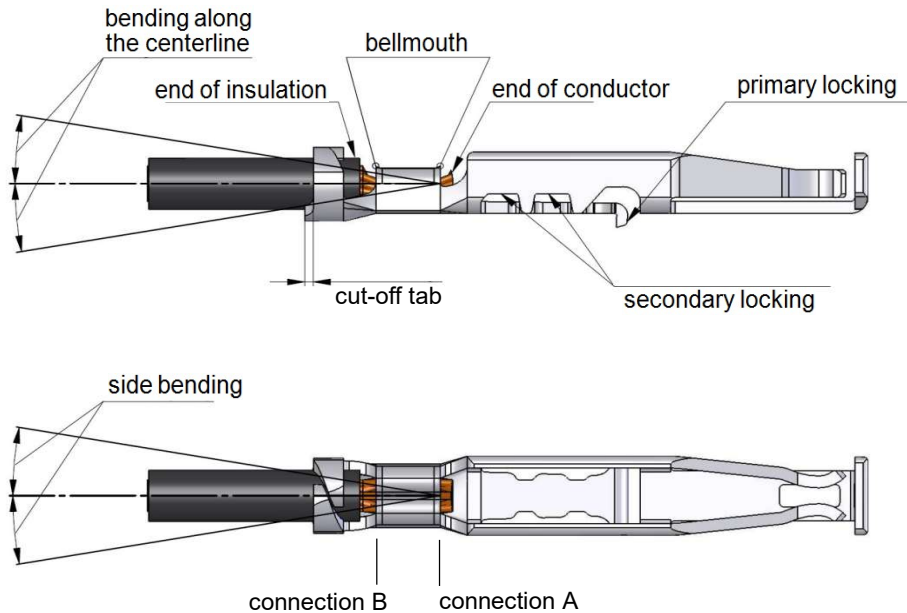
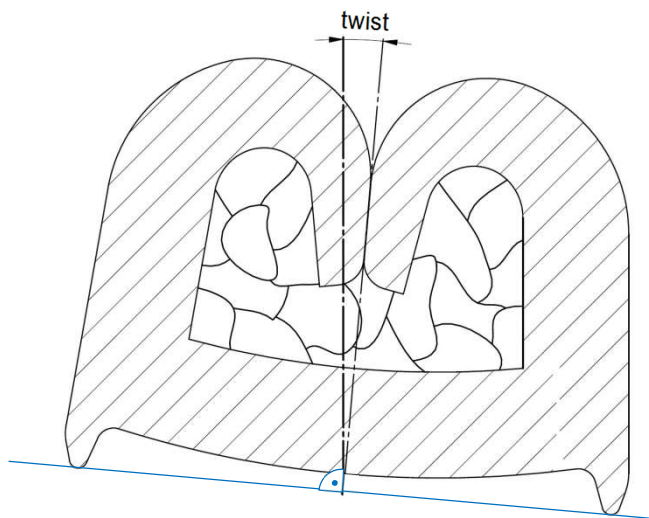

Figure 2
Figure 10
- "Side bending" must not exceed 3° (see Figure 2).
- "Bending along the centerline" must not exceed 5° (see Figure 2).
- "Twist" between crimp and contact range must not exceed 5° (see Figure 10, missing in Figure 2).
- The separating strip must not exceed 0.3 mm (see Figure 2).